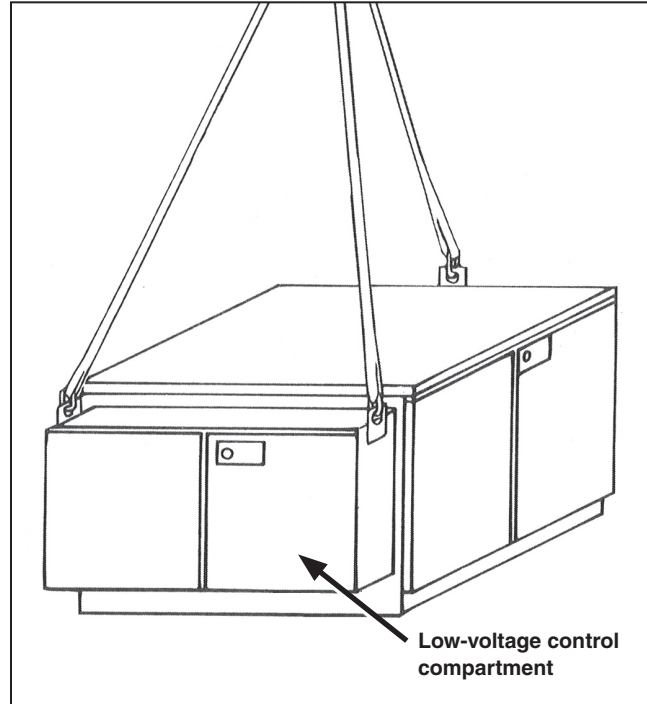

Figure 1. The hoist sling arrangement.
- STEP 3.** Arrange the hoist slings to distribute the lifting forces equally between the lifting tabs. See Figure 1.